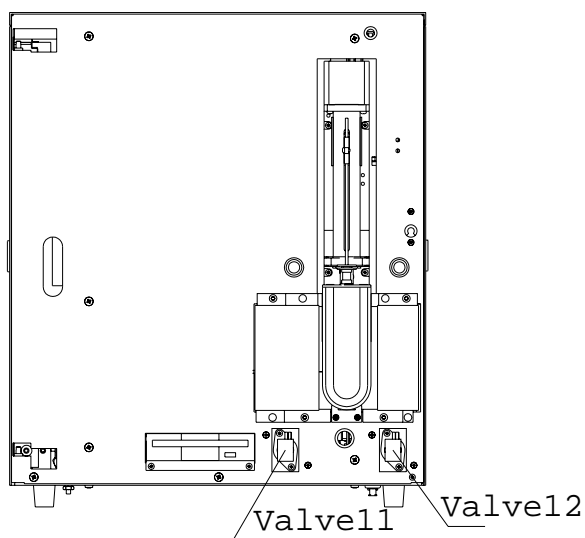

Figure 5-61
3. Figure 5-61 shows the machine with the front panel opened.